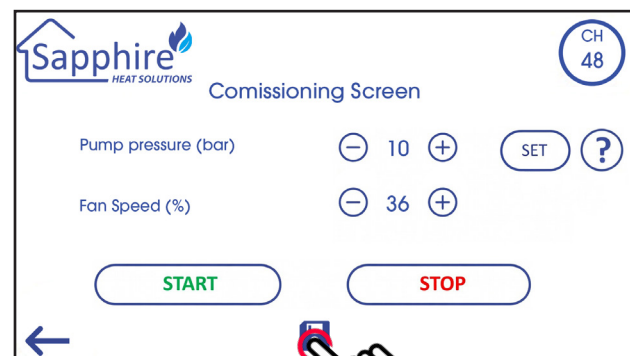

Fig. 25
- After all modulating pump pressure points have been adjusted and saved by pressing the "Set" button. Press the "Save" icon button. **Fig. 25**